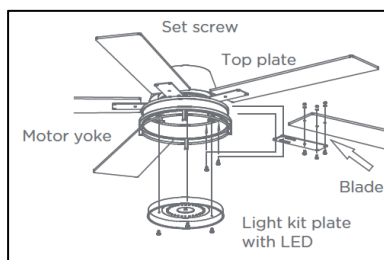

Fig. 13
- Install the light plate kit onto the motor using the screws provided and tighten securely (Fig. 13).